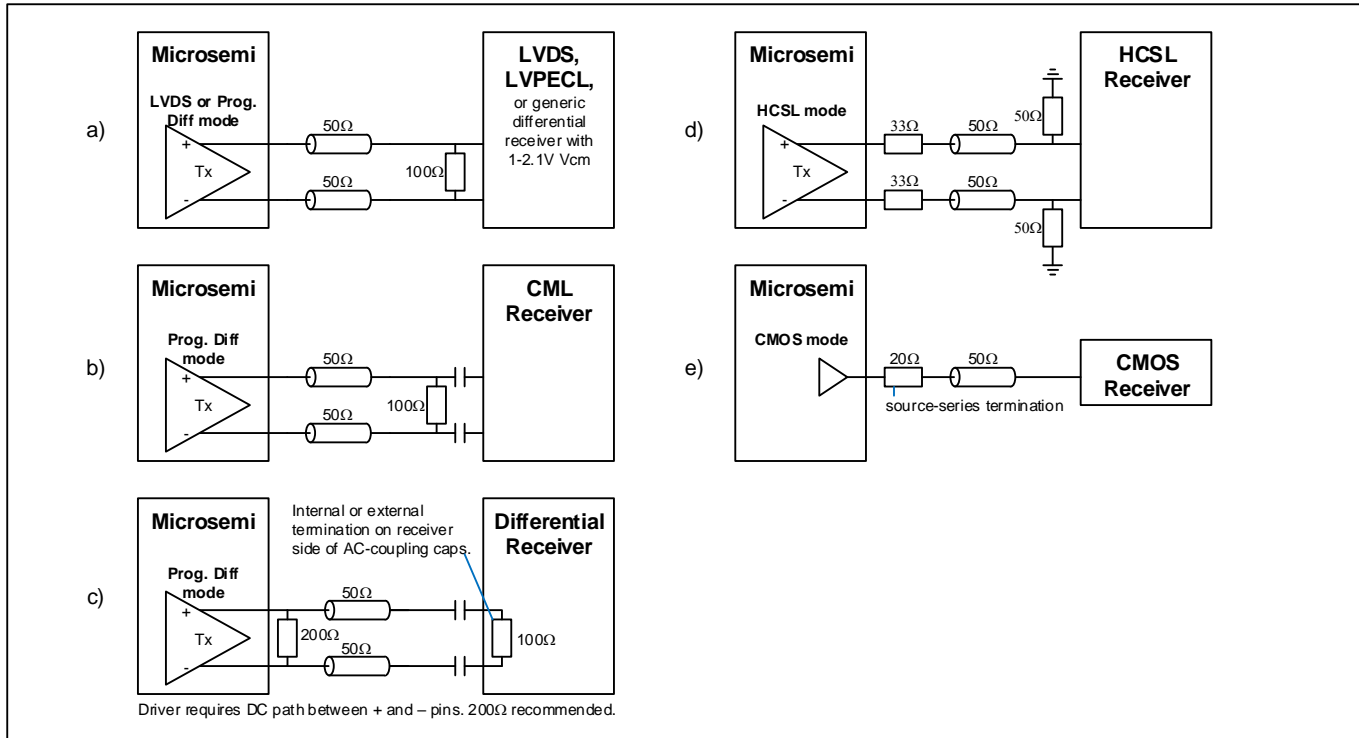

Figure 17 - Example External Components for Output Signals
**Note 1:** OCxCR2.OCsf=0001 (LVDS). Output must have 100Ω DC path between OUTxP and OUTxN to meet these  $V_{OD}$  specs. See Figure 17 parts a) and b) for examples where this DC path is a 100Ω termination resistor at the receiver.
**Note 1:** OCxCR2.OCSF=0010, OCxDIFF.VCM=1100, OCxDIFF.VOD=0101. Output must have 100Ω DC path between OUTxP and OUTxN to meet these  $V_{OD}$  specs. See Figure 17 parts a) and b) for examples where this DC path is a 100Ω termination resistor at the receiver.
Figure 17 part c) covers the case where an existing receiver has AC coupling caps followed by an internal or external 100Ω termination resistor. The driver requires a DC path between its POS and NEG pins even in this case. A 200Ω resistor is recommended. Since this arrangement attenuates the signal by one third, The `OCxDIFF.VOD` field should be set 50% higher to compensate.